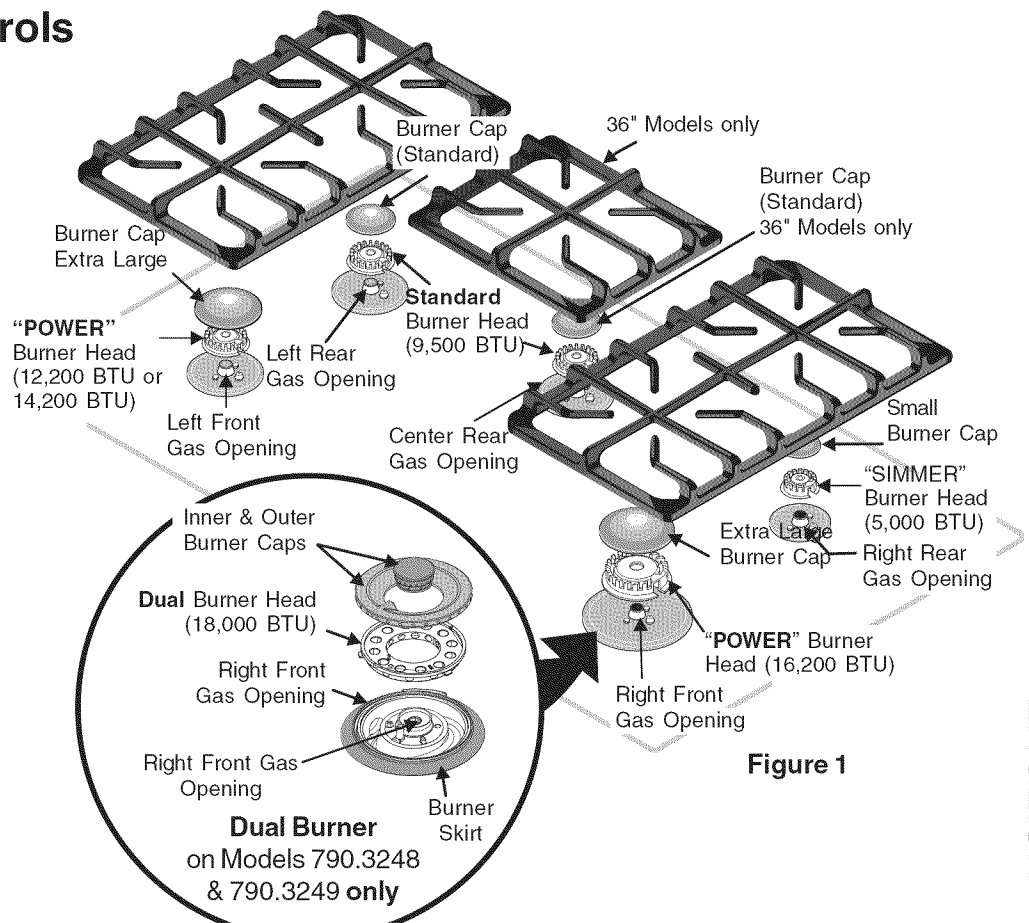
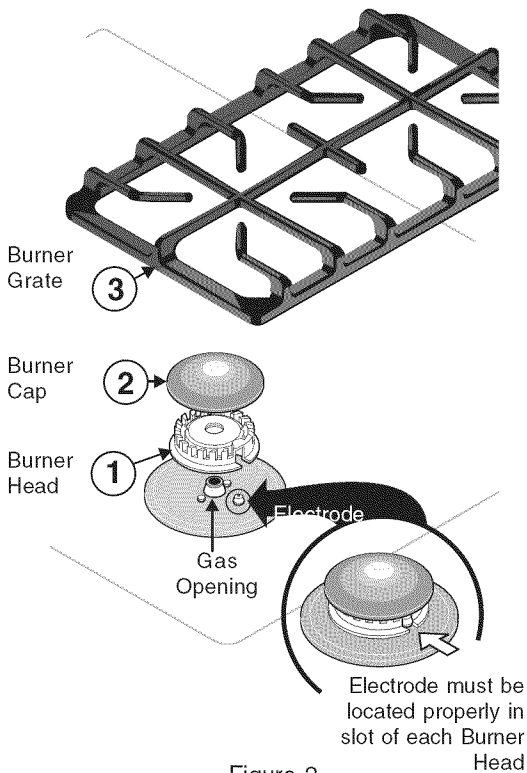

Figure 1
Figure 2
When setting up the cooktop for the first time, make sure that the correct Burner Heads, Burner Caps and Burner Grates are located as shown in Figure 1.
1. Place all 4 (four) or 5 (five) Burner Heads in the correct locations (See Figure 1). Make sure that the correct Burner Head is placed with the corresponding Gas opening and that the Electrode is located properly in the slot of each Burner Head (See Figure 2). Proper Burner Head placement insures that each Burner will have the correct spark required for surface gas ignition.
2. Place the correct Burner Caps at each of the burner locations. Each of the Burner Heads **MUST** have a Burner Cap installed to insure proper ignition and gas flame size (See Figure 2).